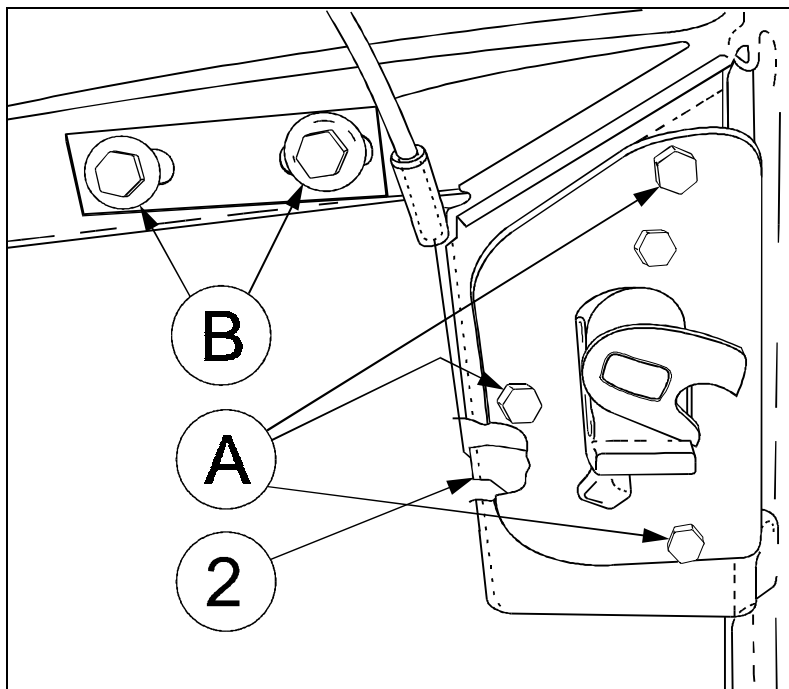
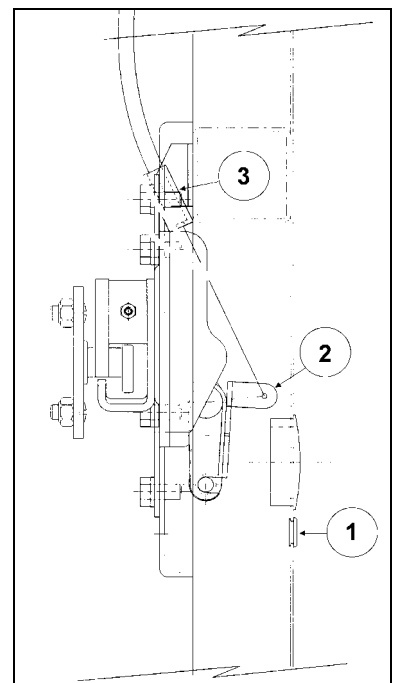
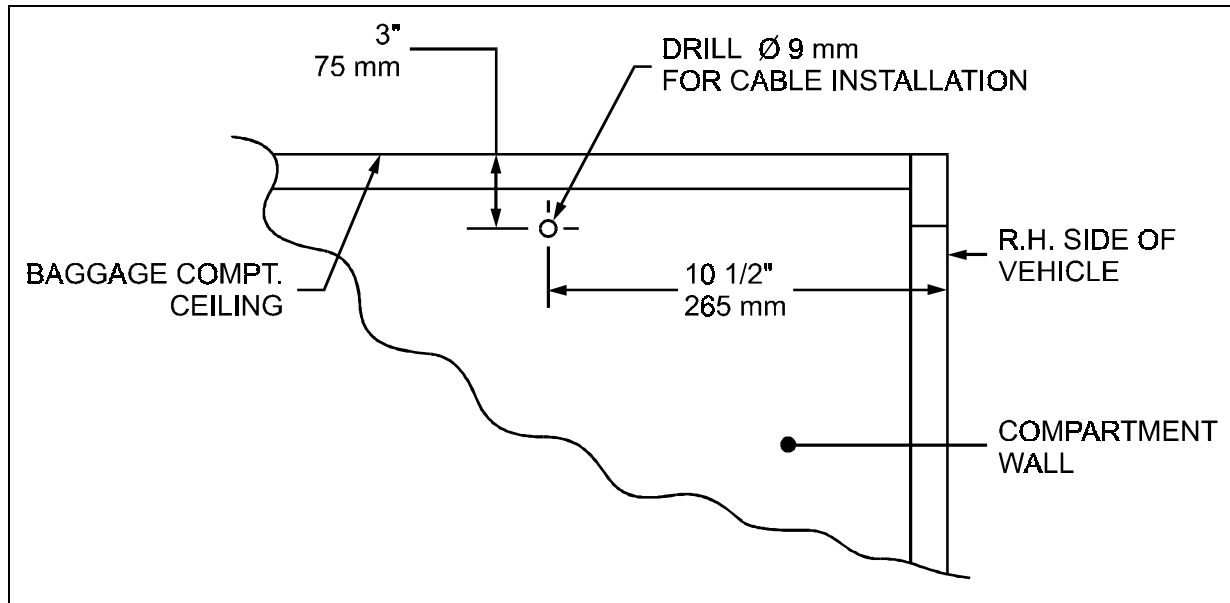

Figure 1
Figure 2
Figure 3
2. Remove the three screws (A, Fig. 1) holding the door latch assembly. Remove the assembly.
3. Remove the door-opening knob and cover the hole with the included plug (1, Fig. 2).
5. Drill a 3/8" (9 mm) diameter hole in the right compartment wall, 10-1/2" (265 mm) inside and 3" (75 mm) from the top of the compartment's ceiling. See figure 1.
8. Install the support plate to the support member. Use the existing holes (B, Fig. 2). Fasten using a M6x20 screw (Prévost #502622), M6 lockwasher (#502565) and M6 nut (#502570). Adjust so the cable is properly aligned and will operate the door latch easily.
9. Install the included connector plate on the door latch assembly (2, fig. 1 or 2, Fig. 2). Install the offset portion of the pull cable in the hole of the connector plate. Install the cable's sheath extremity tightly into the connector plate's sleeve (3, Fig. 3).